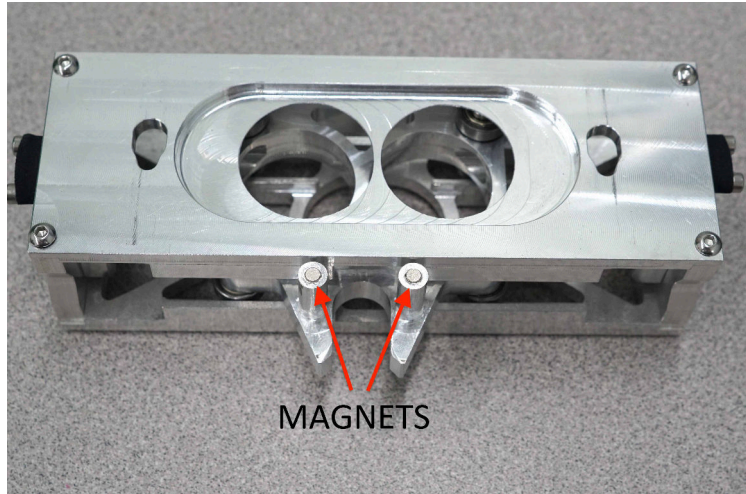

Figure 10: Magnets on extended cylinders on slipper block must protrude slightly, be clean and undamaged.
- The magnets on the extended cylinders on the slipper block protrude slightly from the aluminum cylinders and are clean and undamaged (see Figure 10).